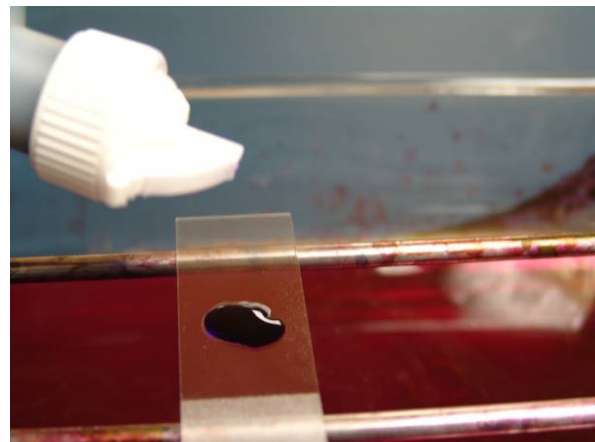

Figure 4: Sample covered with crystal violet
- 9.4. Figure 4: Sample covered with crystal violet